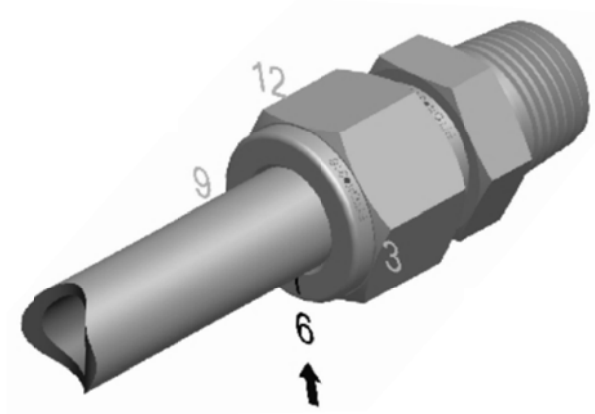

Figure 4
4.1.2 Mark the nut at the 6 o' clock position, as shown in Figure 4.